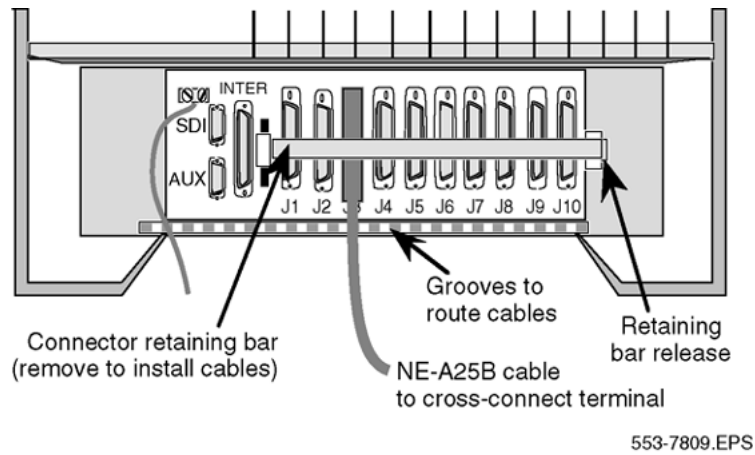

Figure 22: Cable connectors in main cabinet
1. Remove the connector retaining bar from the connector panel in the lower part of each cabinet or Media Gateway. See Figure 22: Cable connectors in main cabinet on page 68 .
1. Remove the connector retaining bar from the connector panel in the lower part of each cabinet. See Figure 22: Cable connectors in main cabinet on page 68.